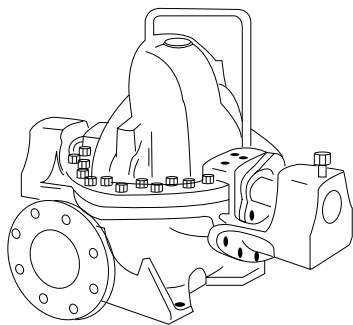

FIGURE 29. Axially Split Casing
- A split casing comprises of two or more parts (top and bottom) fastened together. The term *horizontally split* had been regularly used to describe pumps with a casing divided by a horizontal plane through the shaft center line or axis (Figure 29). The term *axially split* is now preferred.